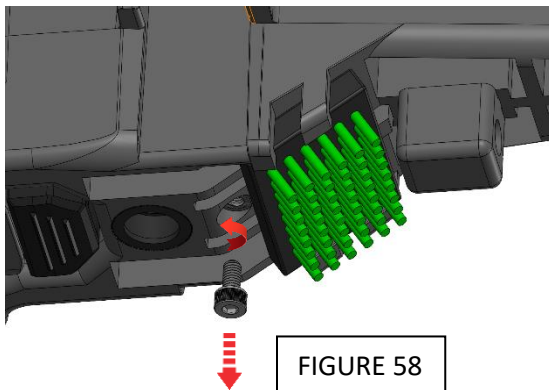
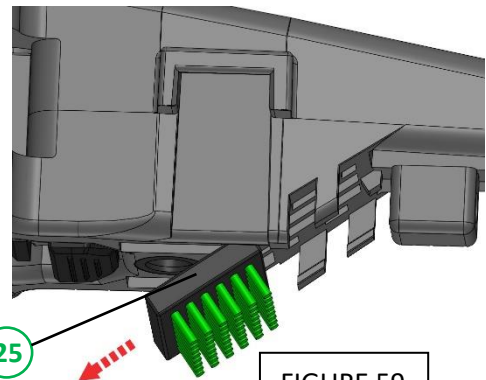

FIGURE 58
FIGURE 59
Unscrew the screw using a 2.5mm Allen wrench (FIGURE 58). Slide out the brush plate (25) (FIGURE 59) and clean it with hot water and soap (By using another brush or just soak the plate inside a bowl of hot water and soap that covers it). **FOR BETTER CLEANING PERFORMANCE (AFTER THE BRUSHES ARE CLEAN AND DRY), YOU CAN APPLY A BIT OF CLP (CLEANER, LUBRICANT, AND PROTECTANT) ON THE BRISTLES ONLY.**